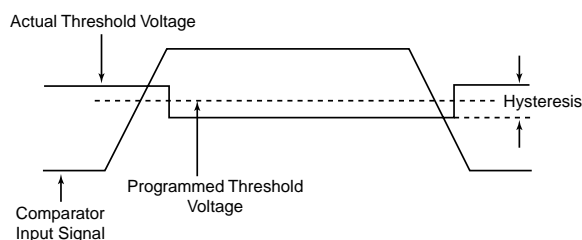

Figure 11. Hysteresis
Comparator hysteresis quantifies the difference in the comparator threshold level when the comparator is triggered by a signal with a positive slope as opposed to one with a negative slope when the programmed threshold voltage at CVA(B) is held constant. In other words, hysteresis is a measure of the change in threshold voltage as a function of the comparator output state (see Figure 11). Typically, hysteresis is used to prevent multiple comparator output transitions due to slow input slew rates in a noisy environment. These slower inputs remain in the transition region for longer periods of time, allowing noise present to cause repeated threshold crossings.